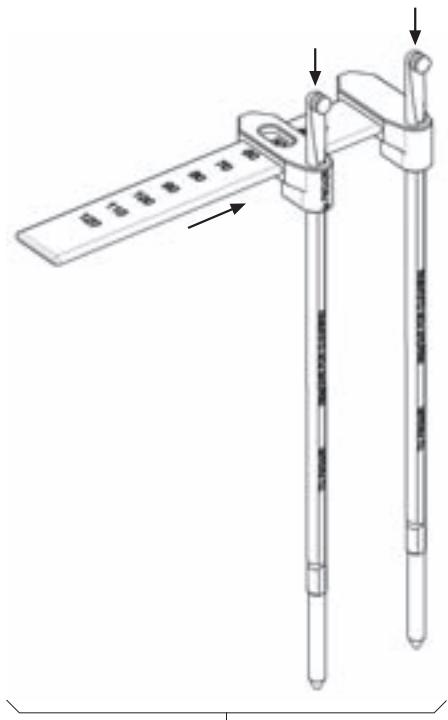

Fig. 17
- Mount rod length measuring instrument 11, see Fig. 17.